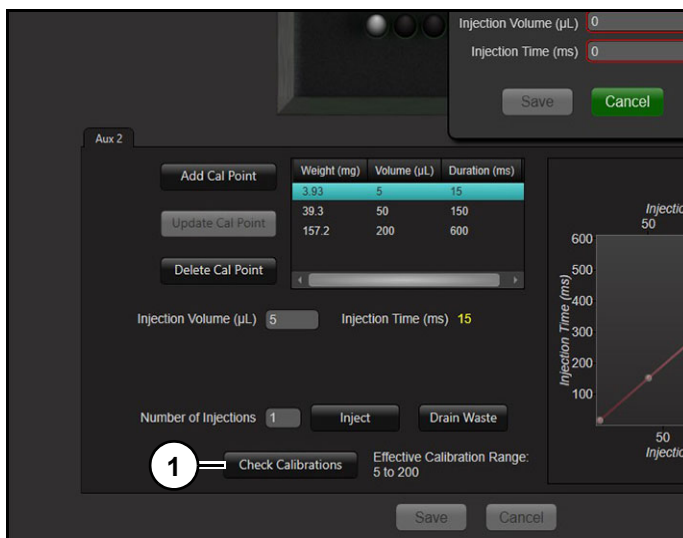

Figure 17
1. Click "Check Calibration" (1) (Figure 17).